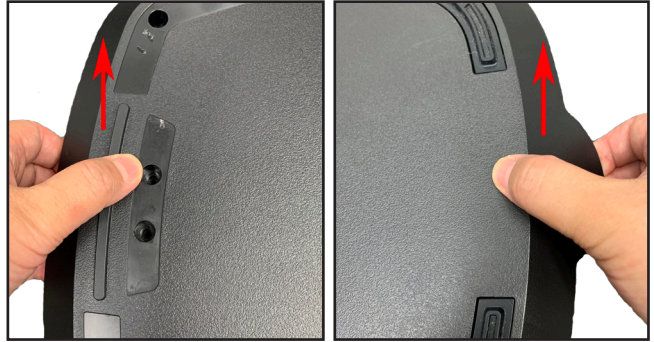

Figure 9. Enclosure Bottom Removal
1.4 Use your hands and lift up on the Enclosure bottom as indicated in Figure 9.